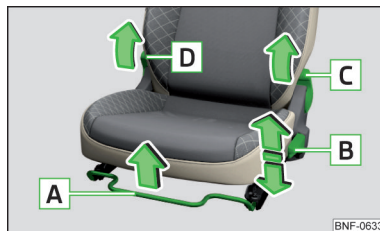

Fig. 48
The seats can be adjusted by the pulling or pressing the operating element in the direction of the arrows» Fig. 48.
- Pull lever **D** » Fig. 48 and fold the seat backrest forwards.